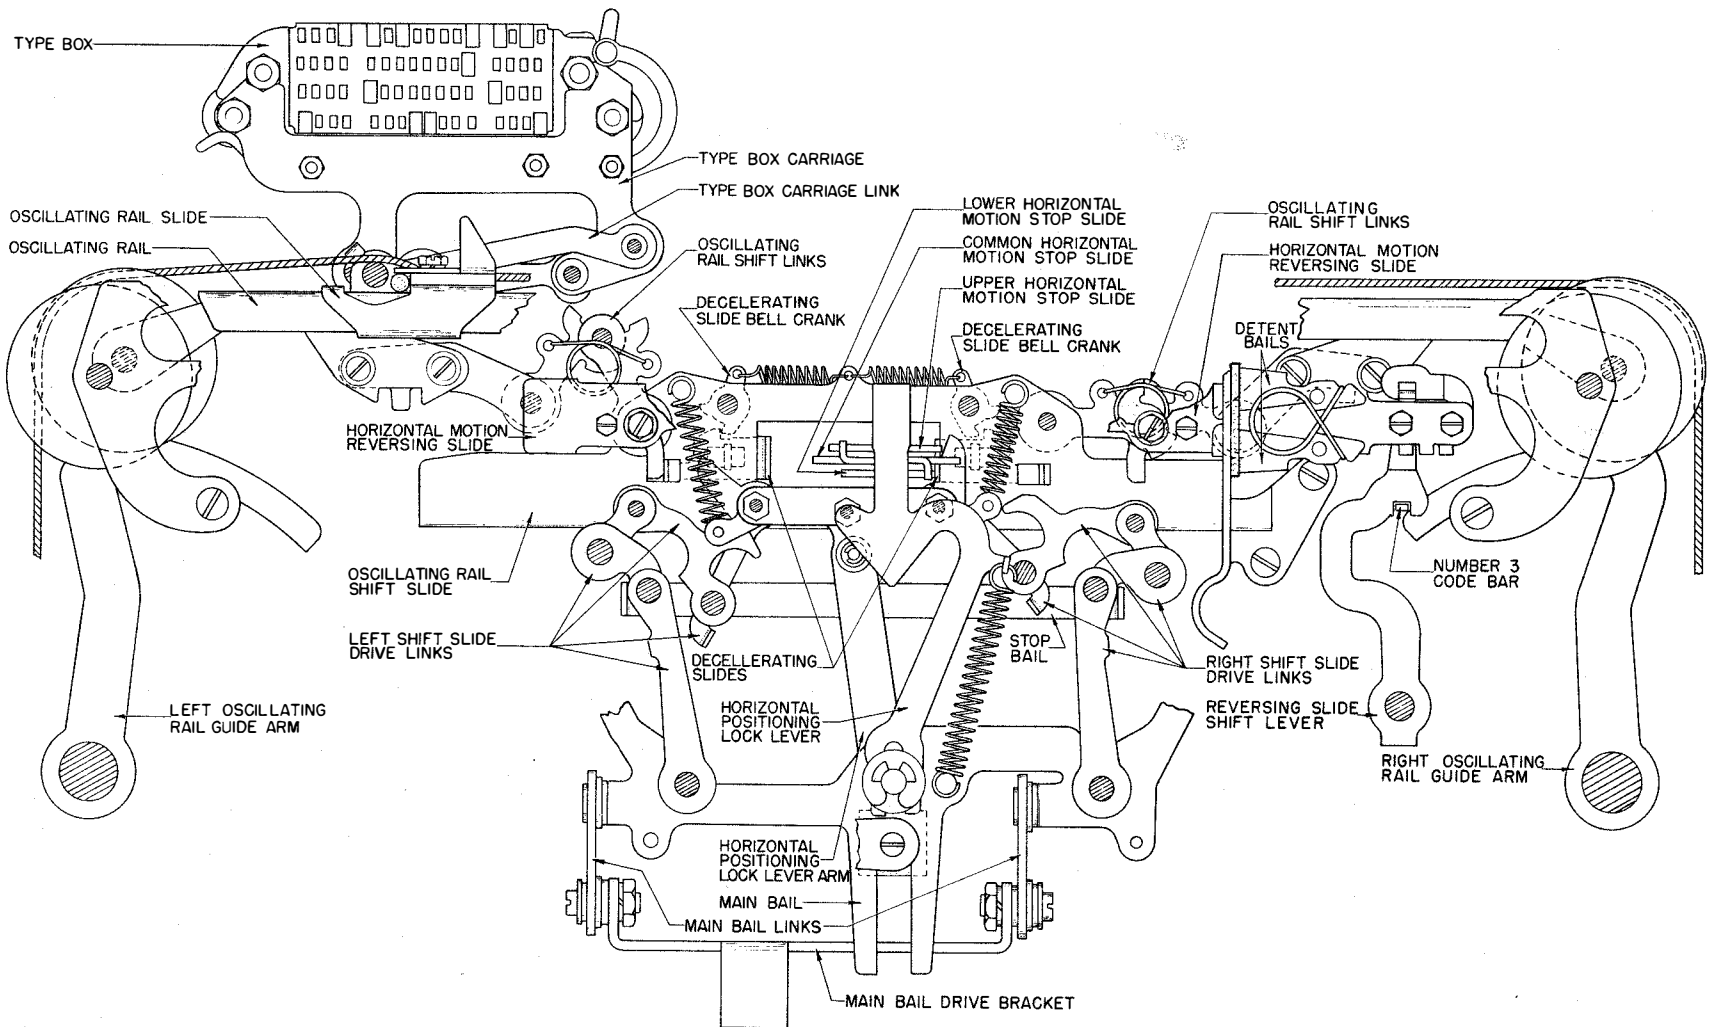
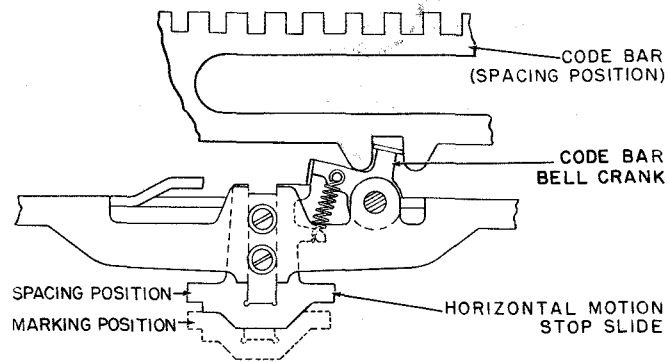

Figure 2-47. Front Plate Horizontal Positioning Mechanism
Figure 2-48. Stop Slide Positioning
3. A bracket attached to the main rocker shaft applies vertical motion to the main bail by means of two links (figure 2-47). Attached to each end of the oscillating rail shift slide, are pivoted "buckling" type drive links which extend downward to each end of the main bail. As the main bail moves downward, the left drive links if not buckled, will try to shift the oscillating rail shift slide toward the right while the right drive links, if not buckled, will try to shift the oscillating rail shift slide toward the left. When the number 3 code bar is shifted toward the left (marking), the horizontal motion reversing slide is shifted toward the left by its shift lever, and is held there by detent bails. A projection near the right end of the reversing slide will then make contact with the right oscillating rail shift slide drive links and cause them to buckle. As the main bail is driven downward, the unbuckled left shift slide drive links will start to shift the rail shift slide toward the right. This positions the type box so that the character to be printed will be found in the left half of the LETTERS or FIGURES end. In a similar manner, when the number 3 code bar is shifted toward the right (spacing) the horizontal-motion reversing slide is also shifted toward the right by its shift lever, and is held there by the detent bails. A projection near the left end of the reversing slide then makes contact with the left oscillating rail shift slide drive links and causes them to buckle. As the main bail is driven downward, the unbuckled right shift slide drive links will start to shift the rail shift slide toward the left. This positions the type box so that the character to be printed will be found in the right half of the LETTERS or FIGURES end.
excursion of the lock lever, and the yield spring extends until the main bail reaches the lowest point of its oscillation. As the main bail returns upward, it centers the oscillating rail shift slide. It is during this time that the horizontal motion stop slides are positioned for the selection of the next character. The number 4 and number 5 code bars each operate a code bar bell crank. Each, in turn, moves a horizontal-motion stop slide toward the front (marking), or toward the rear (spacing) (figure 2-48). A third (common) stop slide (spring tensioned toward the rear) is located between the upper and lower stop slides and has projections which pass across the front edges of these slides (figure 2-47). Each stop slide is of a different length. The common slide which is the longest stop has an additional step on its shank so that it serves as the shortest stop when all the slides are moved forward. The upper slide (operated from the number 4 code bar) is the second longest stop, and the lower slide (operated from the number 5 code bar) is the third longest stop.